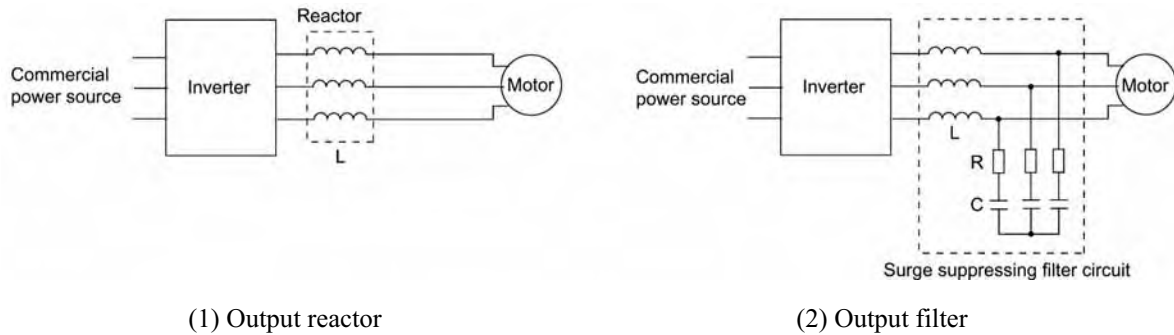

Figure C.3 Method to Suppress Surge Voltage
(1) Output reactor
If wiring length is relatively short, the surge voltages can be suppressed by reducing the voltage rise time (dv/dt) with the installation of an AC reactor on the output side of the inverter. (Refer to Figure C.3 (1).)
(2) Output filter
Installing a filter on the output side of the inverter allows a peak value of the motor terminal voltage to be reduced. (Refer to Figure C.3 (2).)